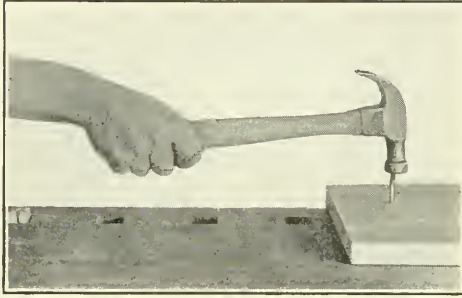

Fig. 171
58. Use of the Hammer. Nailing.—Hold the hammer near the end of the handle,¹ and swing it freely but so that the head can strike the nail squarely (Fig. 171) and not slantingly, or it may be driven crooked or bent. Use light strokes—mere taps—in starting the nail. After you are sure it is going straight, you can use more force. On nice work do not try to sink the nail quite flush with the wood. Leave that for the nail-set (see page 68), as even a slight dent will be likely to show when the work is finished.